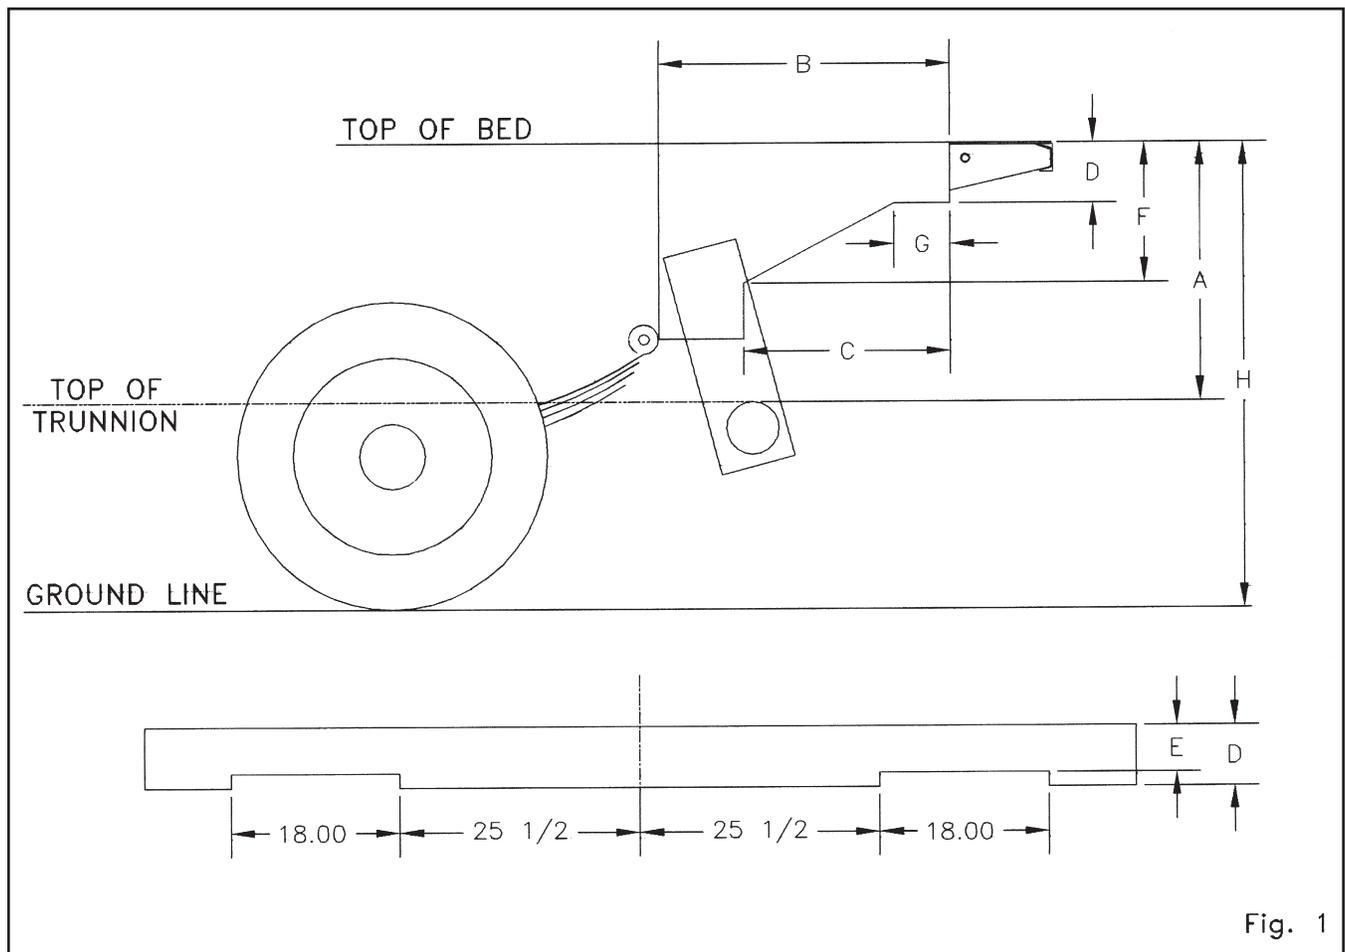

Fig. 1
4. Check "B" dimension for possible interference with spring hanger bracket. See figure 1.
Step 4 If necessary, notch rear of body as shown in figure 1. Check dimensions of "E" and "B". See chart below.